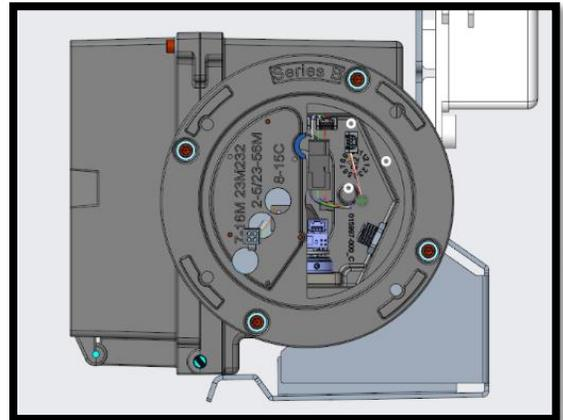

Figure 4: Top (Vertical) inlet configuration
1. If the meter is to be installed in the top inlet (vertical) configuration (refer to Figure 4), the MC3 does not need to be modified and is ready for installation.